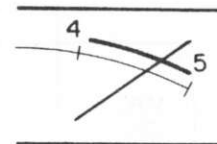

Fig. 18 Meter deflection
12. Set the FM signal generator output to 100dB, and adjust VR_2 for maximum deflection at the signal meter (Fig. 18).